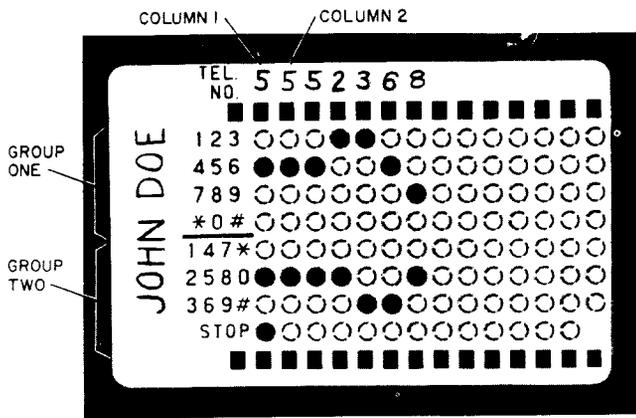

Fig. 7—Card Coded for 7-Digit Telephone Number
- Card—provides switching (Fig. 7 and 8).
- (1) Prepare dialing card.
- (2) Write name and telephone number in spaces as shown in Fig. 7 and 8.
- (3) Convert prefix letters to numbers.
**Note:** There are two groups of numbers 1 through 0 plus symbols \* and # or (☆ and ◇ MD) on the card (Fig. 7).
- (4) In Fig. 7 the first digit of the telephone number is 5. In column 1 locate digit 5 in the first group of numbers and punch out the perforation with a pencil or ballpoint pen. In the same column, locate digit 5 in the second group of numbers and again punch out the perforation.
- (5) Repeat this procedure for each digit in the telephone number. Digit 0 and symbols \* and # or (☆ and ◇ MD) must be punched out